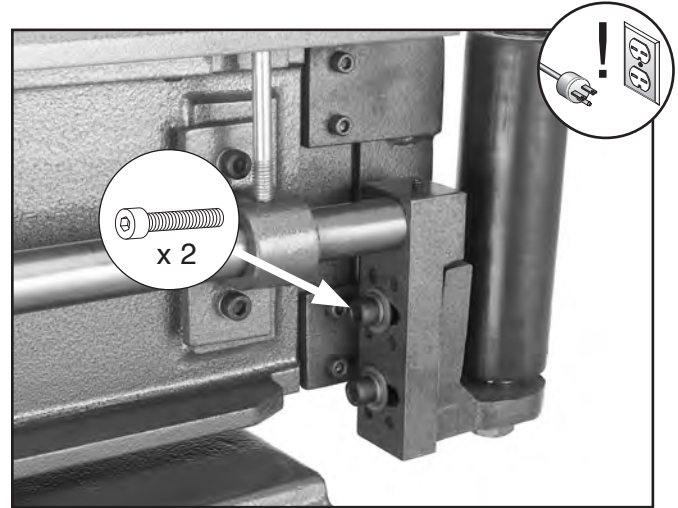

Figure 72. Location of idler roller adjustment cap screws.
2. Loosen (2) cap screws shown in **Figure 72** approximately one full turn.